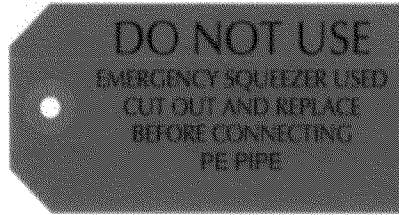

Figure 1. DO NOT USE Tag
- d. If an emergency P.E. pipe squeezer was used without set gap-stops, attach tag stating: "DO NOT USE, EMERGENCY SQUEEZER USED. CUT OUT AND REPLACE BEFORE CONNECTING PE PIPE," to the body of P.E. pipe next to blind-end fitting. See Figure 1, "DO NOT USE" tag.